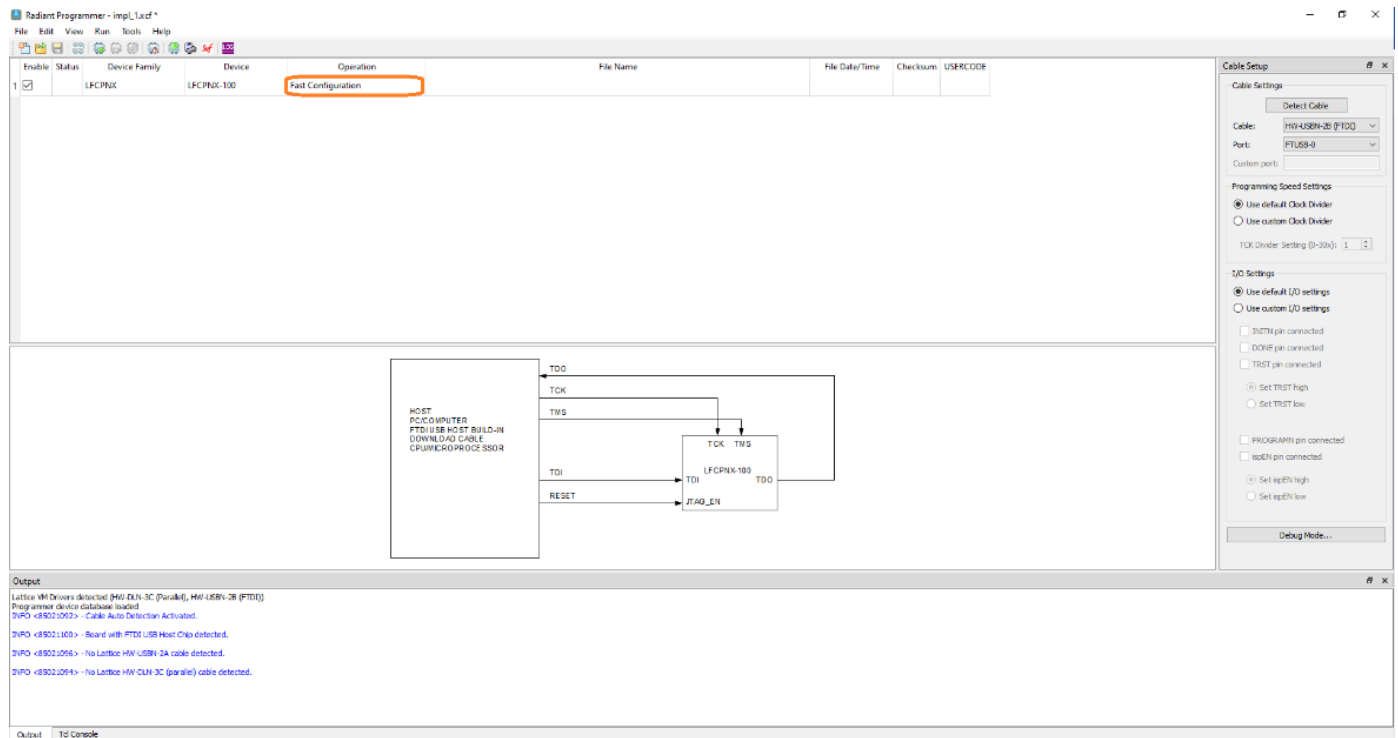

Figure A.3. Radiant Programmer – Fast Configuration Dialog
- a. Under **Operation**, double-click **Fast Configuration** as shown in Figure A.3.